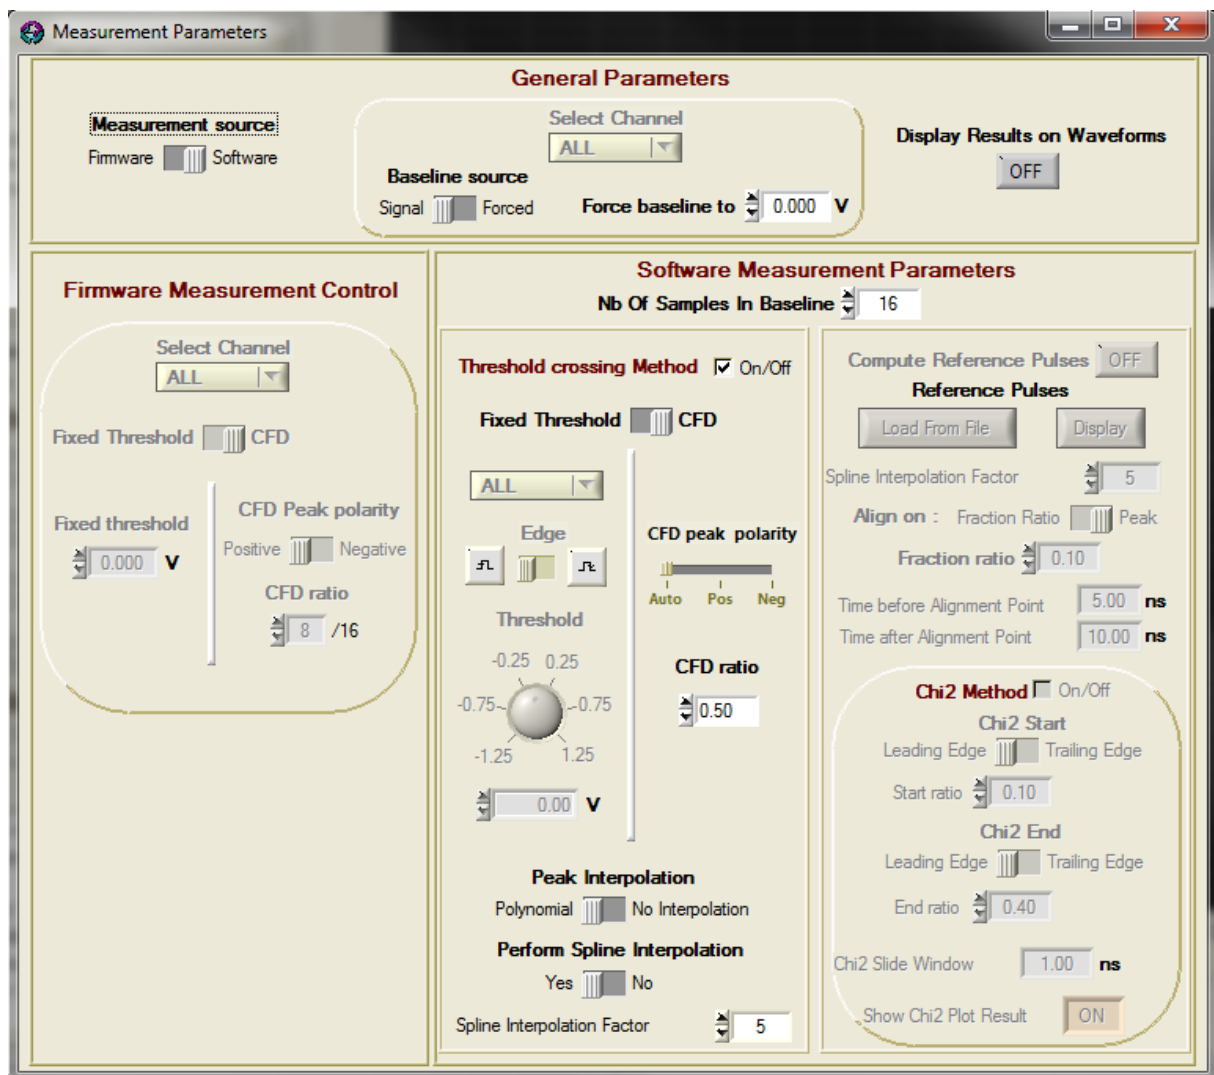

Figure 5.16: Measurement Parameters window
- **Measurement Parameters:** by clicking on this item, the user opens an eponym window (see **Figure 5.16**). There, all the parameters needed for the measurement can be defined.